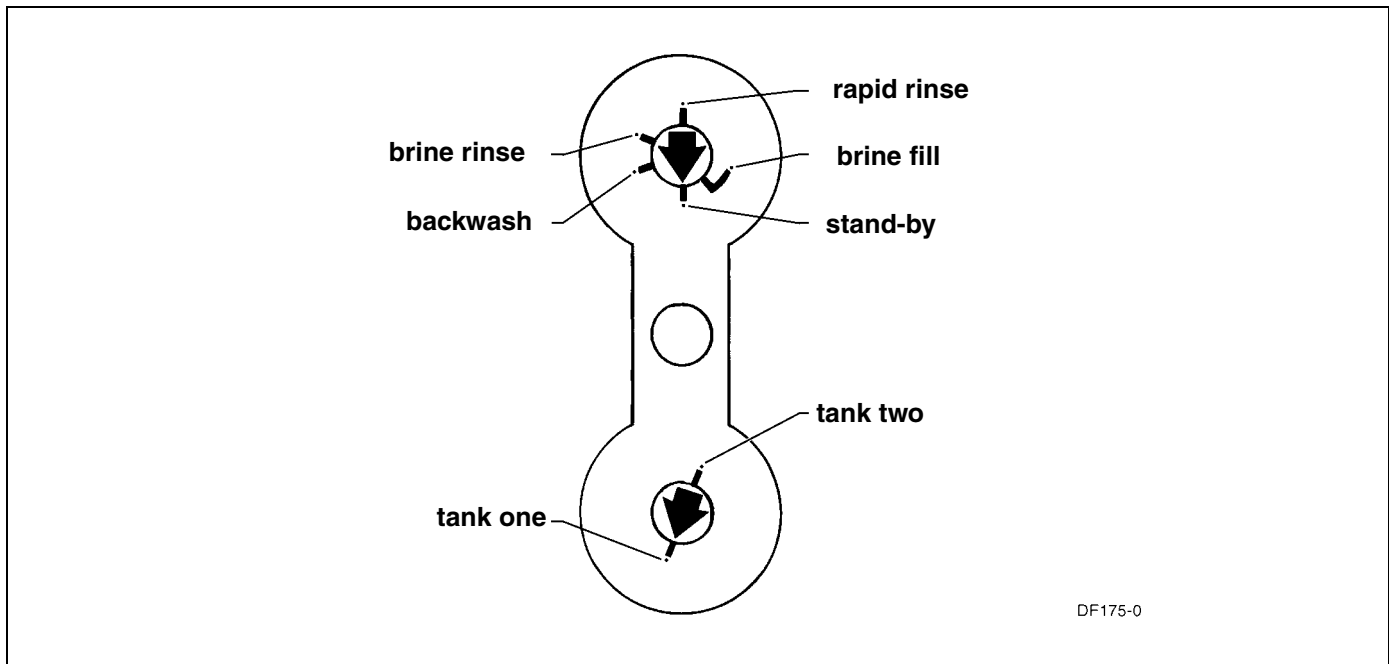

Figure 3: Control Valve Position Indicators
- Figure 3, page 6 shows the valve In Service position with tank one supplying conditioned water and tank two on standby.